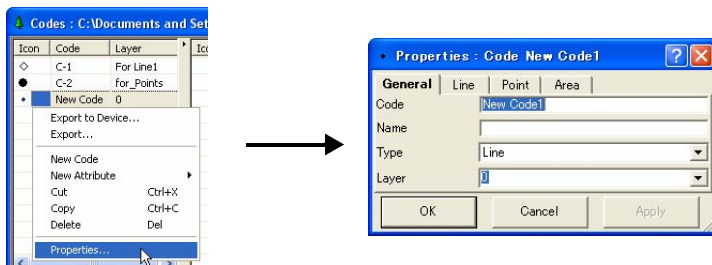

Figure 5-60. View Code Properties and Edit Name
1. Right-click the selected code and click **Properties** on the pop-up menu (Figure 5-60).
- On the *General* tab, edit the code's name and select the layer (Figure 5-60).